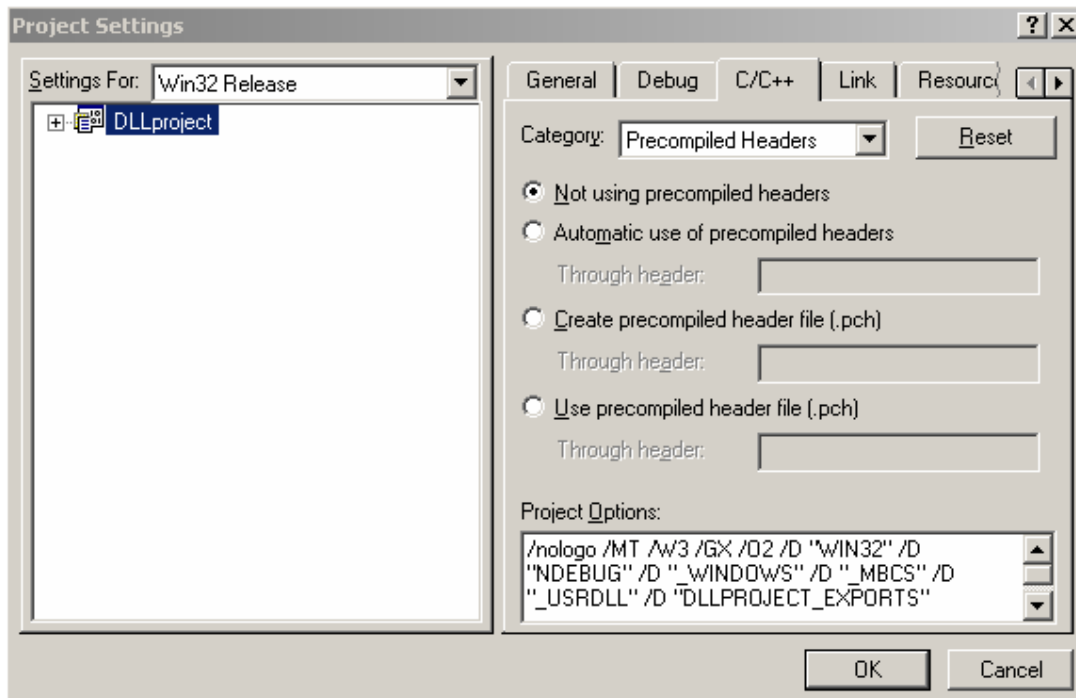

Figure 13: Unselecting precompiled headers
22. Go to Project/Settings... in the menus. Select the C/C++ tab and from the pull-down menu next to "Category", select "Precompiled Headers". Select the option button labelled "Not using precompiled headers" (figure 13).